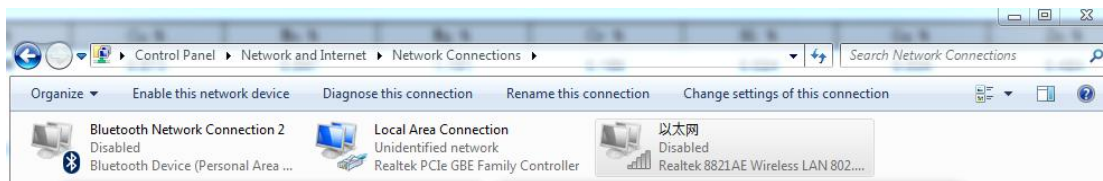

Figure 3-18 Computer Network Properties
Step 2 Turn on the computer, find the computer IP address settings, right-click and select “Properties”, as shown in Figure 3-18: